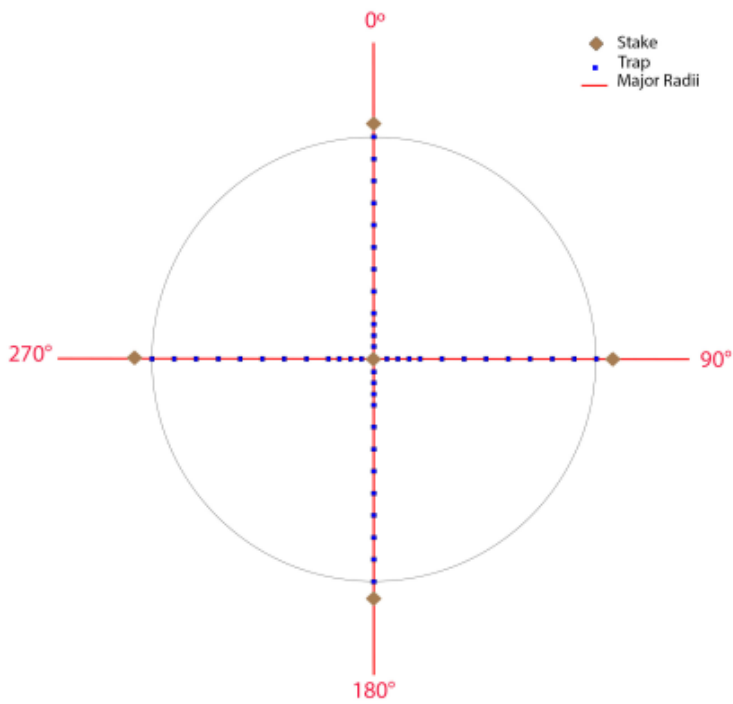

Figure 1: Outline of Major Radii and trap placement
8. When all knots have a flag placed at each knot, one person should return to the center and the other to the end of the rope. This first radii is at "0" degrees. (See Figure 1).
9. The "180" degree radii should then placed by setting up the rope in a similar manner. (See Figure 1)
10. The "90" & "120" degree radii should be placed as described in #9. Ensure that "90" & "120" are perfectly in line with one another and perpendicular to the "0" & "180" radii. (See Figure 1)